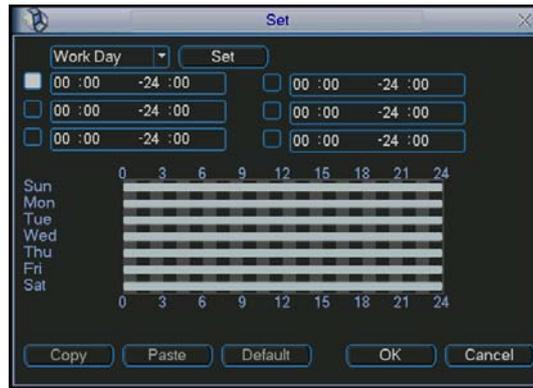
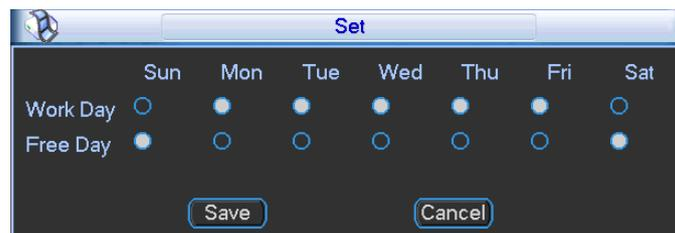

Figure 4-17
Figure 4-18
- Period: Click set button, you can see an interface is shown as in Figure 4-17. Here you can set for business day and non-business day. In Figure 4-17, click set button, you can see an interface is shown as in Figure 4-18. Here you can set your own setup for business day and non-business day.